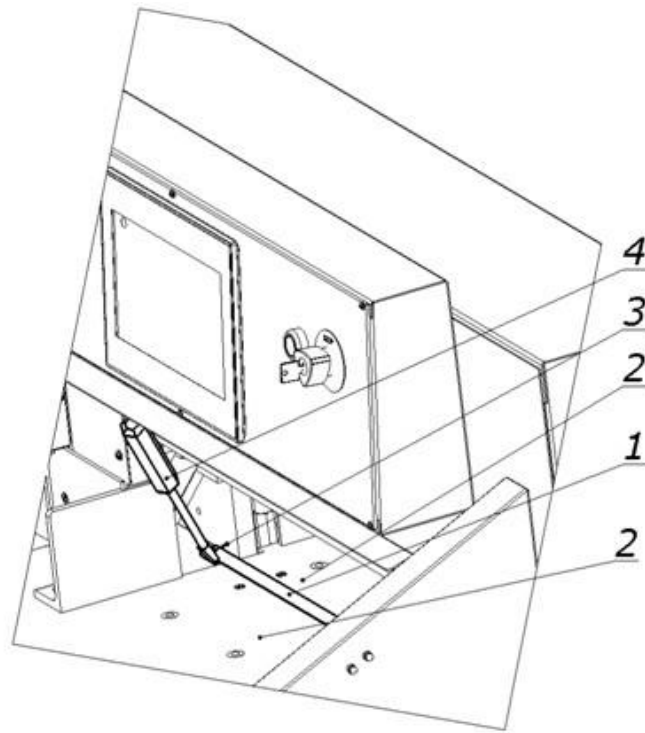

Figure 35. Removing the cutting stick
Lift (lift) the cutting stick 1 with a screwdriver 4 (fig. 35) Rotate
8.2.3. Insert the replaced stick into the channel between the tables 2 and place it on the dowel 3 (Fig. 35)